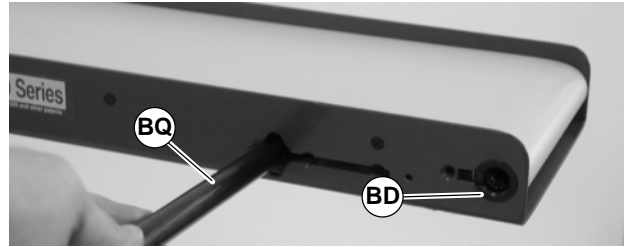

Figure 53
7. Insert pulley installation tool (BQ of Figure 53) into opposite side of conveyor and push retaining sleeve (BD) into pulley until flush with conveyor frame.